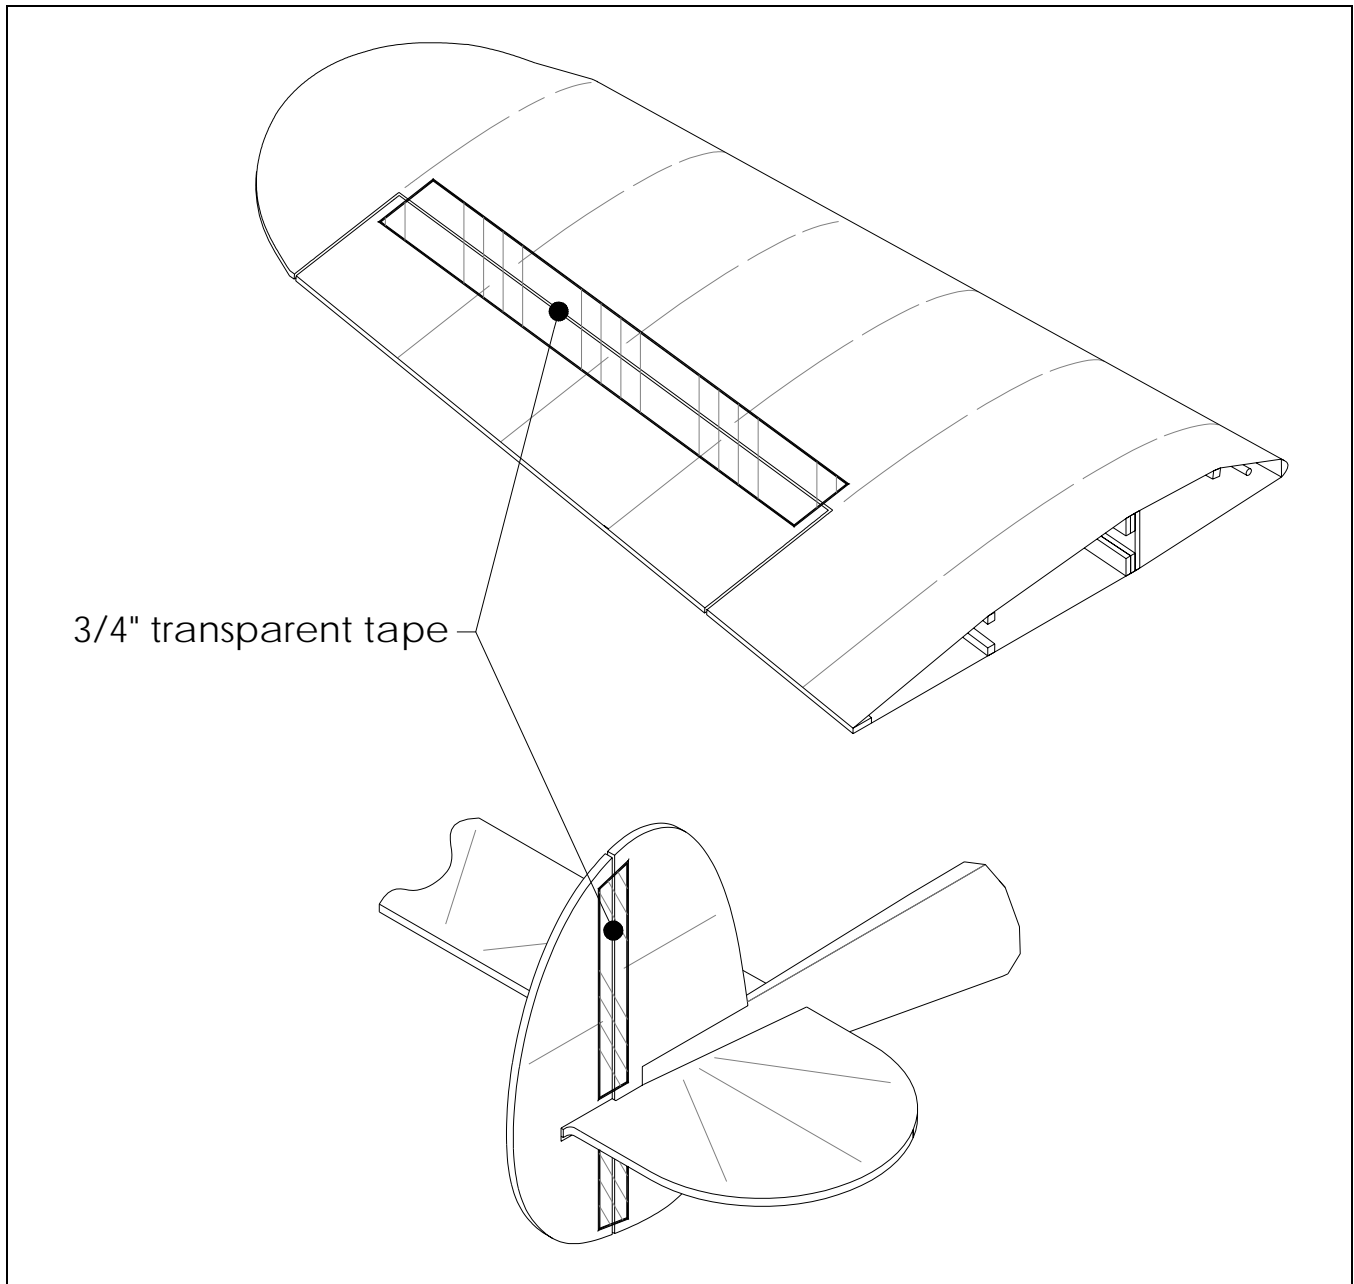

Figure 29
- ❑ Tape the control surfaces to their proper locations making sure to leave a 1/32" to 1/16" gap on the hinge side to allow for rotation as illustrated in Figure 29. Make sure that the ailerons fit into their openings without rubbing on adjacent surfaces.